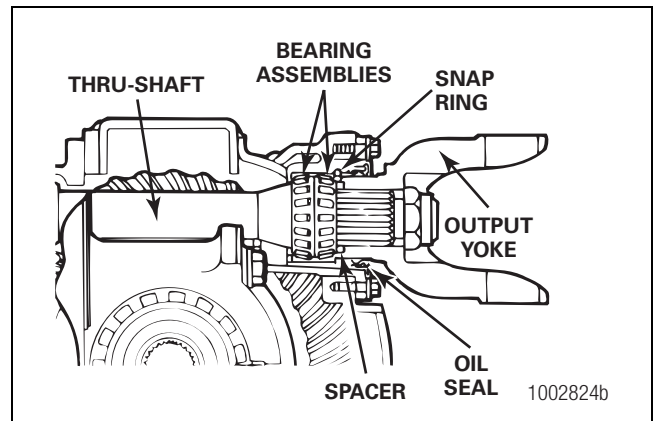

Figure 5.3
1. Apply axle lubricant to bearing cups and cones. Figure 5.3.